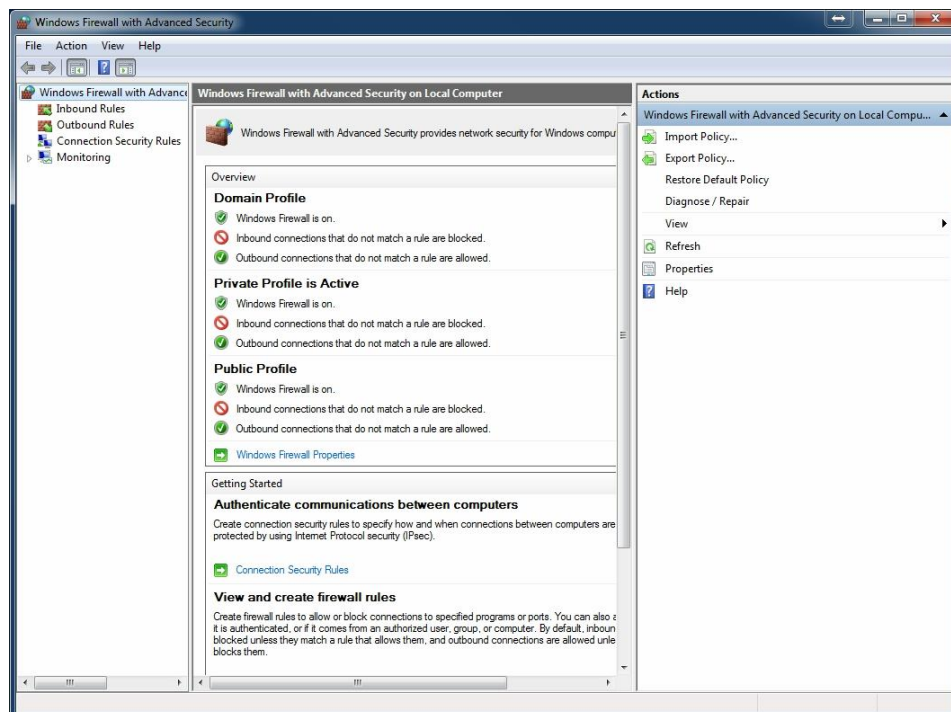

Figure 2-9 Windows Firewall – Advanced Security Inbound Rules
Step 4: From the window shown in Figure 2-9, select the “Inbound Rules” from the left-hand menu.